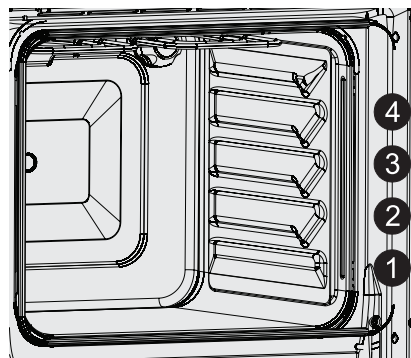
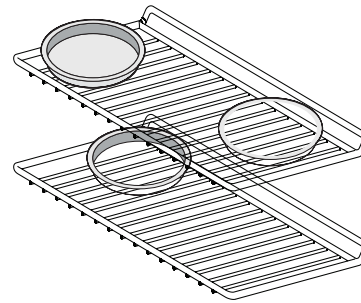

Figure 15 : Oven rack positions
Figure 17: Baking with multiple levels & racks
- For best results when baking with one oven rack, place racks in positions 2 or 3 (Figure 15).
- For best results when baking cakes or cookies using two oven racks, place racks in positions 1 and 3 (Figure 15) and place pans as shown in Figure 17.